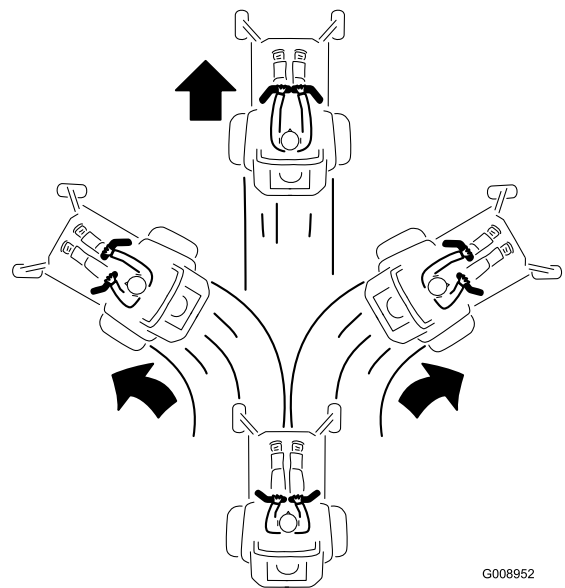

Figure 25
2. To go forward, slowly push the motion-control levers forward (Figure 25).